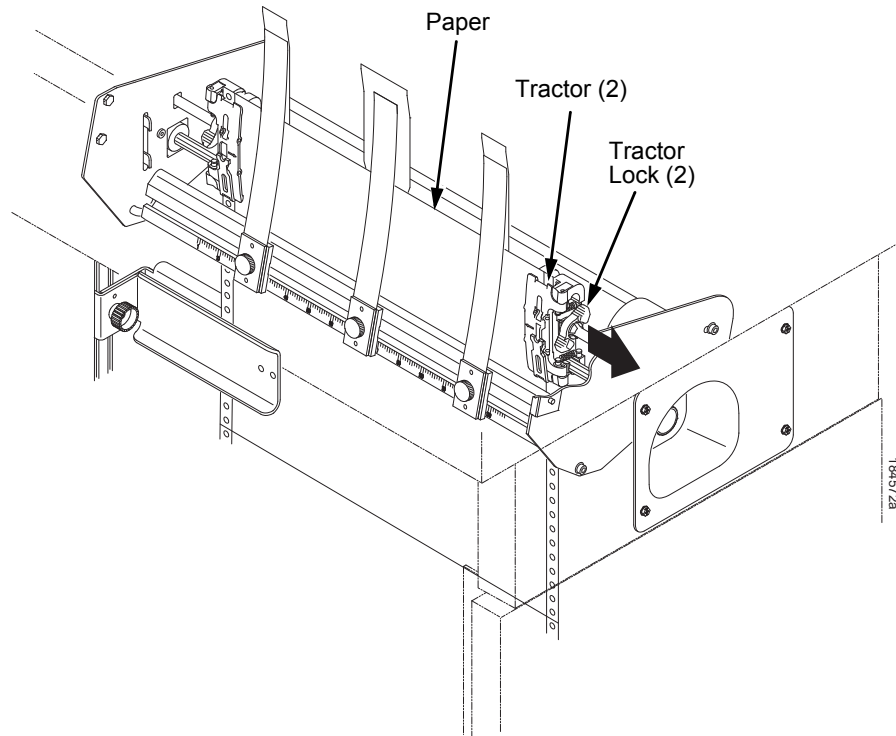

Figure 57. Adjusting the Horizontal Paper Tension
5. Adjust the paper web tightness by sliding the right tractor to remove slack or to adjust for various paper widths. (See Figure 57.)